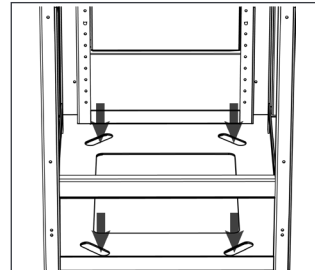

Figure 6. Mounting slots
Step 4. Anchor the cabinet to the ground through the (4) mounting slots (see Figure 6). Use anchors appropriate for the floor type.
The chassis ground is located on the top of the MBS cabinet (see Figure 6). A two hole lug landing position is provided. See table below for termination information.